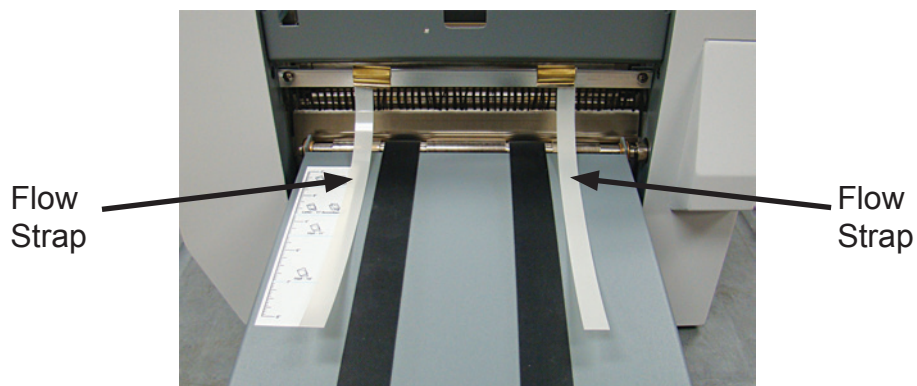

Figure 15
**NOTE:** Straps should not be placed where they will interfere with the conveyor belts or the weighted out-feed tires, (see Figure 15).
5. Repeat process on other side. Figure 15 shows two straps in place.